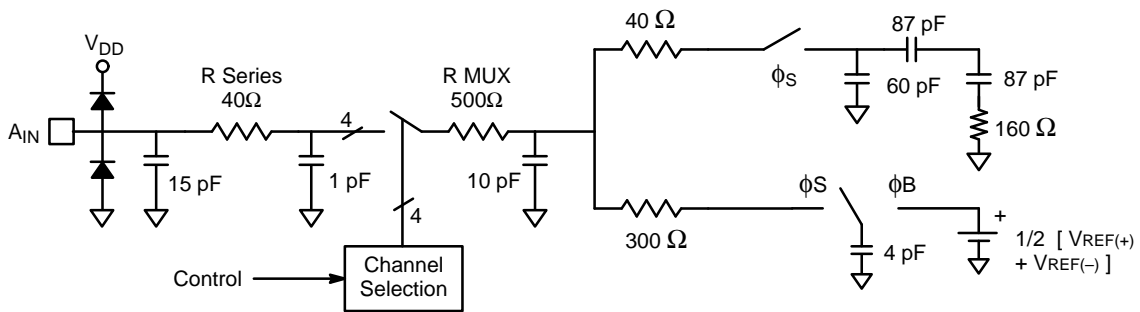

Figure 9. Analog Input Equivalent Circuit
- See V_{IN} input equivalent circuit (see Figure 9.).
The MP8798's performance is optimized by using analog input circuitry that is capable of driving the A_{IN} input. Figure 9. shows the equivalent circuit for A_{IN} .